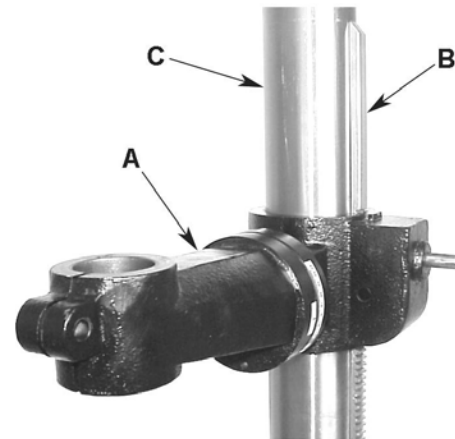

Figure 2
Referring to Figures 2 and 3:
4. Remove the wrap and take the rack ring (D) and rack (B) off the column (C).
5. Install the table bracket (A) together with the rack (B) as shown in Figure 2.